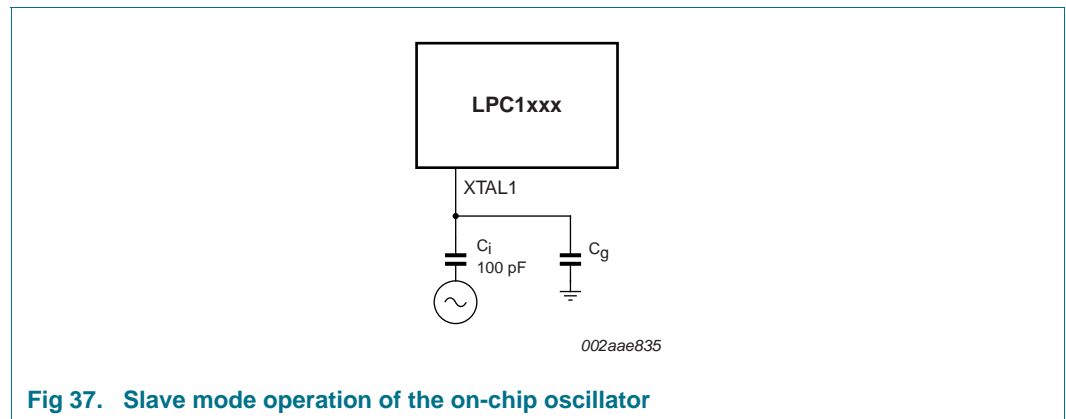

Fig 37. Slave mode operation of the on-chip oscillator
- In slave mode the input clock signal should be coupled by means of a capacitor of 100 pF (C_C in Figure 37), with an amplitude of at least 200 mV (RMS). The XTAL2 pin in this configuration can be left unconnected.